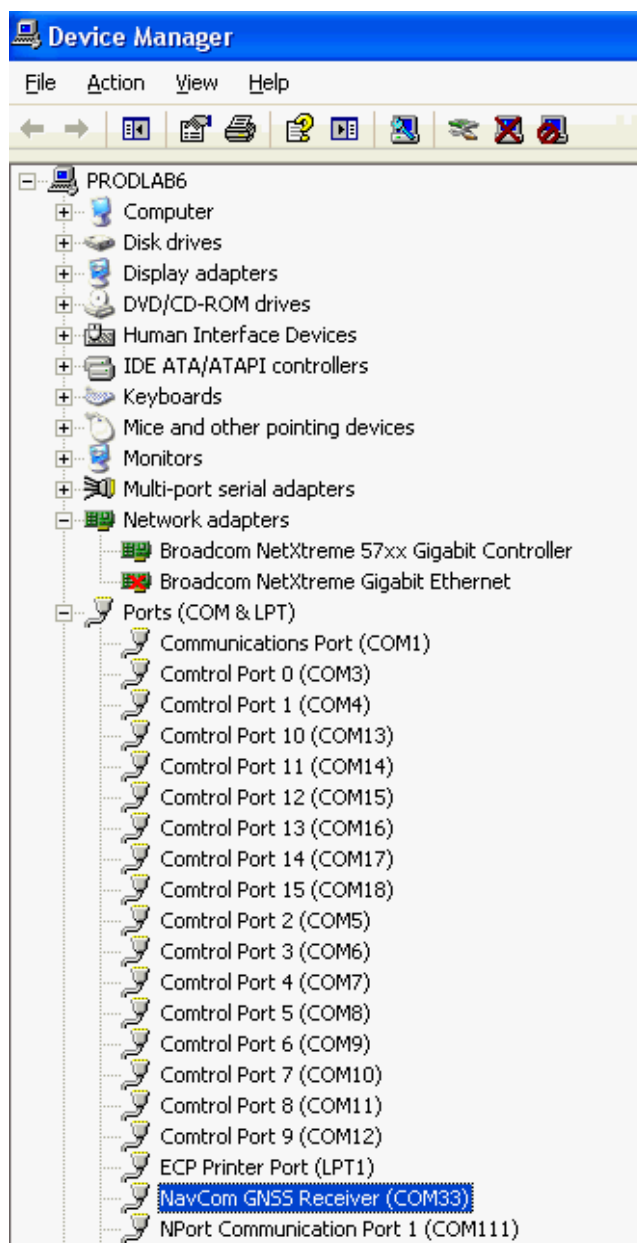

Figure 40: Device Manager
11. On the *Device Manager* window (see Figure 40), check to confirm that the COM port has been configured.